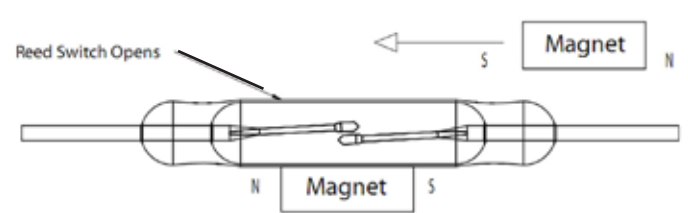

Figure 16. A permanent magnet with opposite polarity brought into proximity of the reed and biasing magnet opens the contacts.
- Using one magnet: Once a permanent magnet has been brought into proximity to the Reed Switch the contacts close. When the permanent magnet is then withdrawn the contacts remain closed. The permanent magnet will then need to be rotated, reversing its magnetic polarity. When it is then brought into the proximity of the reed and biasing magnet again, it will open the contacts (see Figure 16).